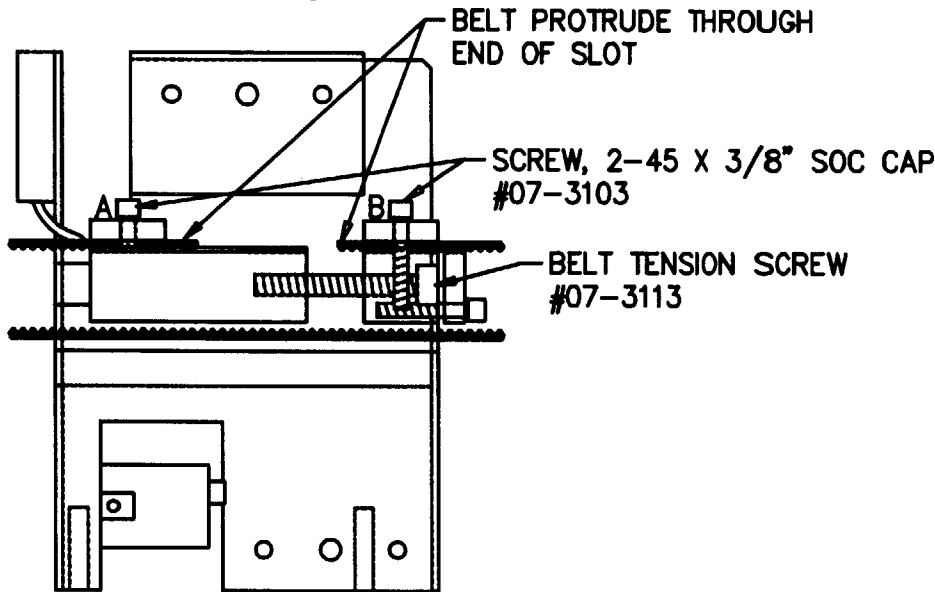

Figure 3-19. X Axis Belt Replacement.
Refer to figure 3-19 for the following:
6. Thread the belt through the first pulley assembly and then through the slot in the Z Axis Assembly (refer to figure 3-19). Then thread it through the second pulley. Be sure that the teeth are facing inward.